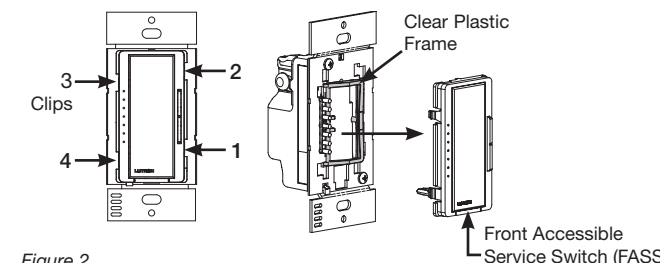

Figure 2
3. Remove existing front actuating switch assembly. Unclip the existing assembly by pressing in on the clips and pulling outward one at a time. Start with the bottom right (1), top right (2), and then the left side (3&4). Pull the assembly straight out from the control, being careful not to dislodge the clear plastic frame underneath. See Figure 2.